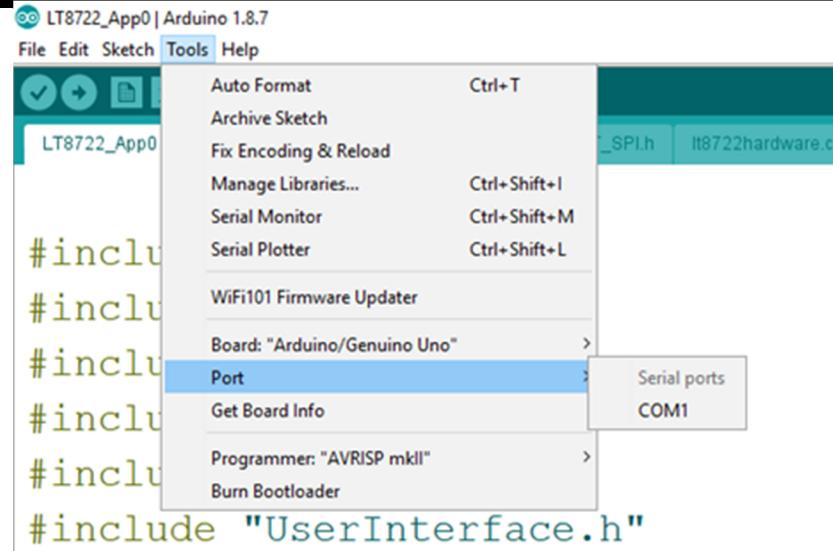

Figure 4: Port Setting
9. Next, ensure the Arduino/Linduino software is properly connected to the port for the DC2026C. See fig. 4. The correct port is typically the one with the smallest number however you may need to experiment until you find it.